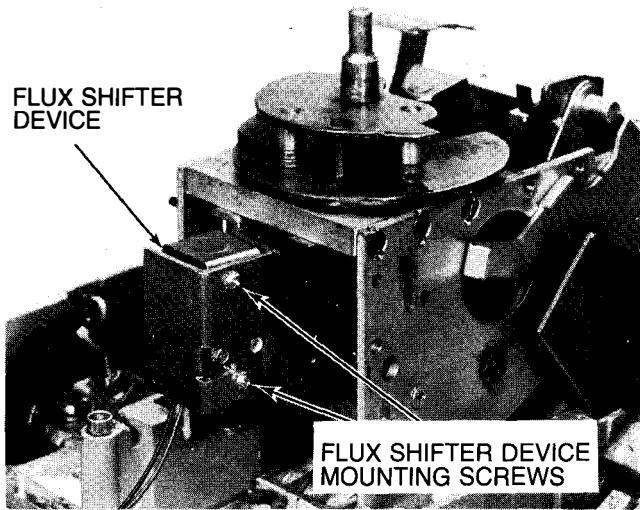

Figure 17.
1. With the breaker open and not charged, push in the flux shifter plunger until it is magnetically seated, and install it as shown in Figure 17 leaving the screws loose.